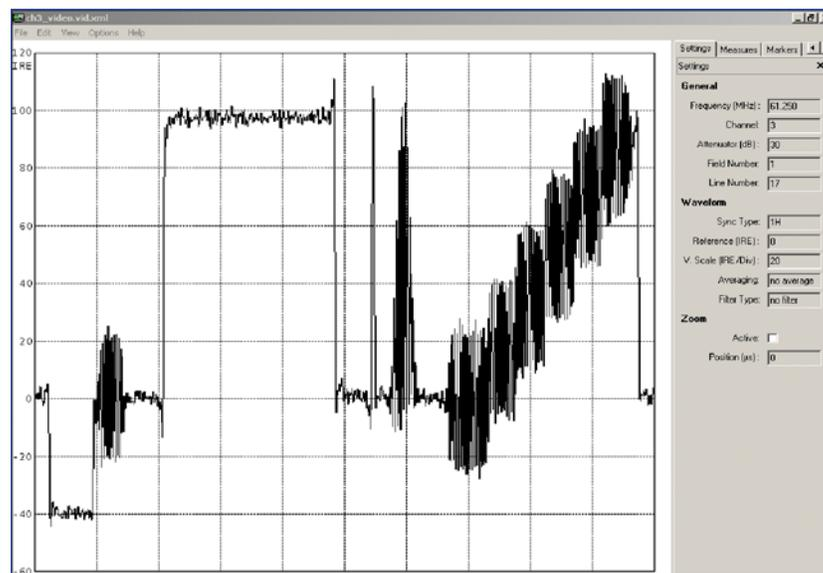
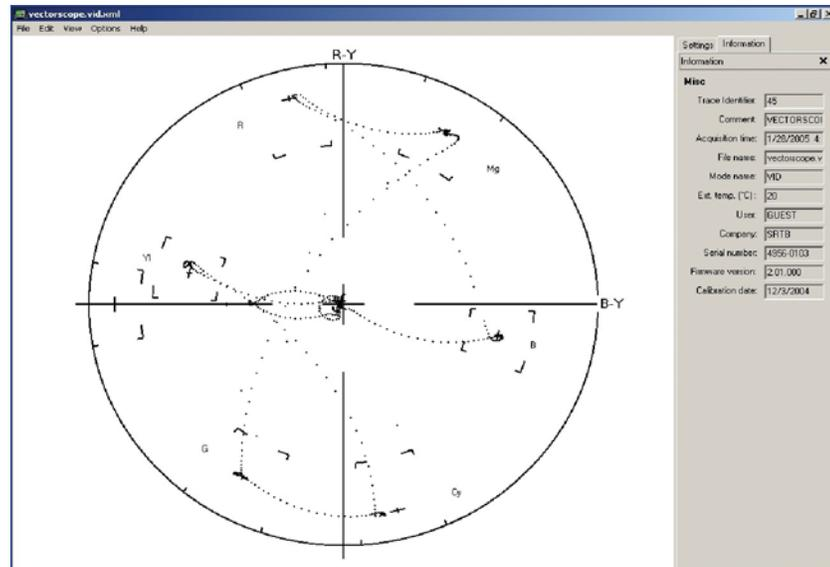

Figure 9-20: Viewing a video trace (waveform monitor)
Figure 9-21: Viewing a video trace (vectorscope view)
2. Highlight a .vid.xml file that is a video trace. The captured video trace may be that of a waveform monitor display as in Figure 9-20 or a vectorscope display as in Figure 9-21.